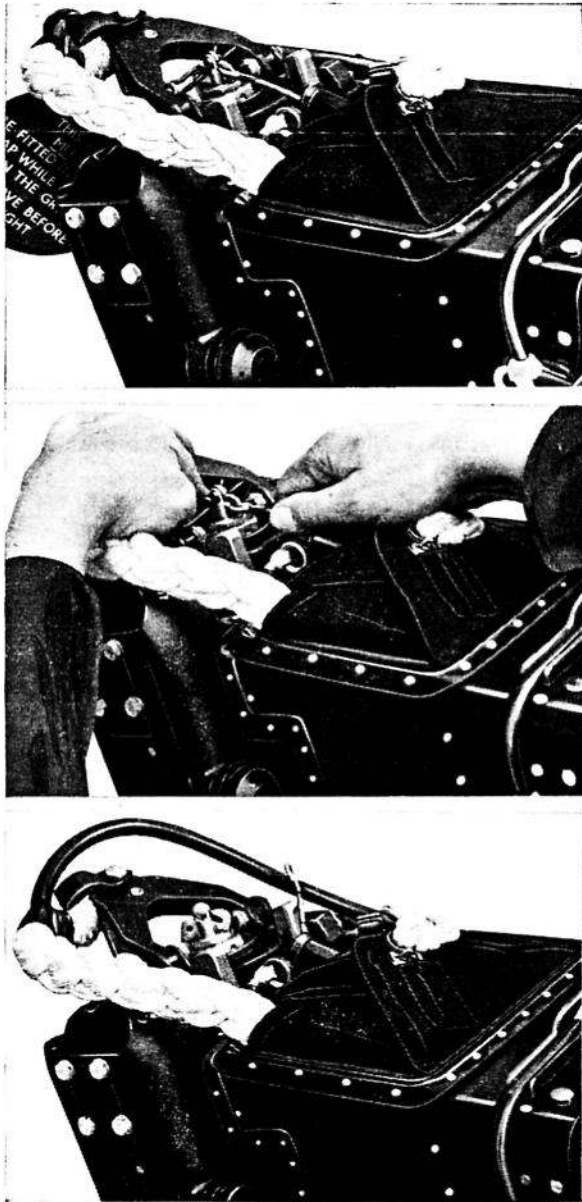

Fig. 2. Disconnecting firing cable from sear
- (2) Ease the firing sear forward by hand (fig. 2), and disconnect the eye end of the firing cable; the sear will automatically slide back to its original position.
- (3) Break the sealed locking wire, then fit the special spanner. Lift the safety pin disc and engage the holes in the disc with the two pegs on top of the spanner.
- (4) Unscrew the firing body from the breech. The cartridge will be pushed upwards by a spring which should be removed with the cartridge; loosely replace the cartridge cover to exclude dust.